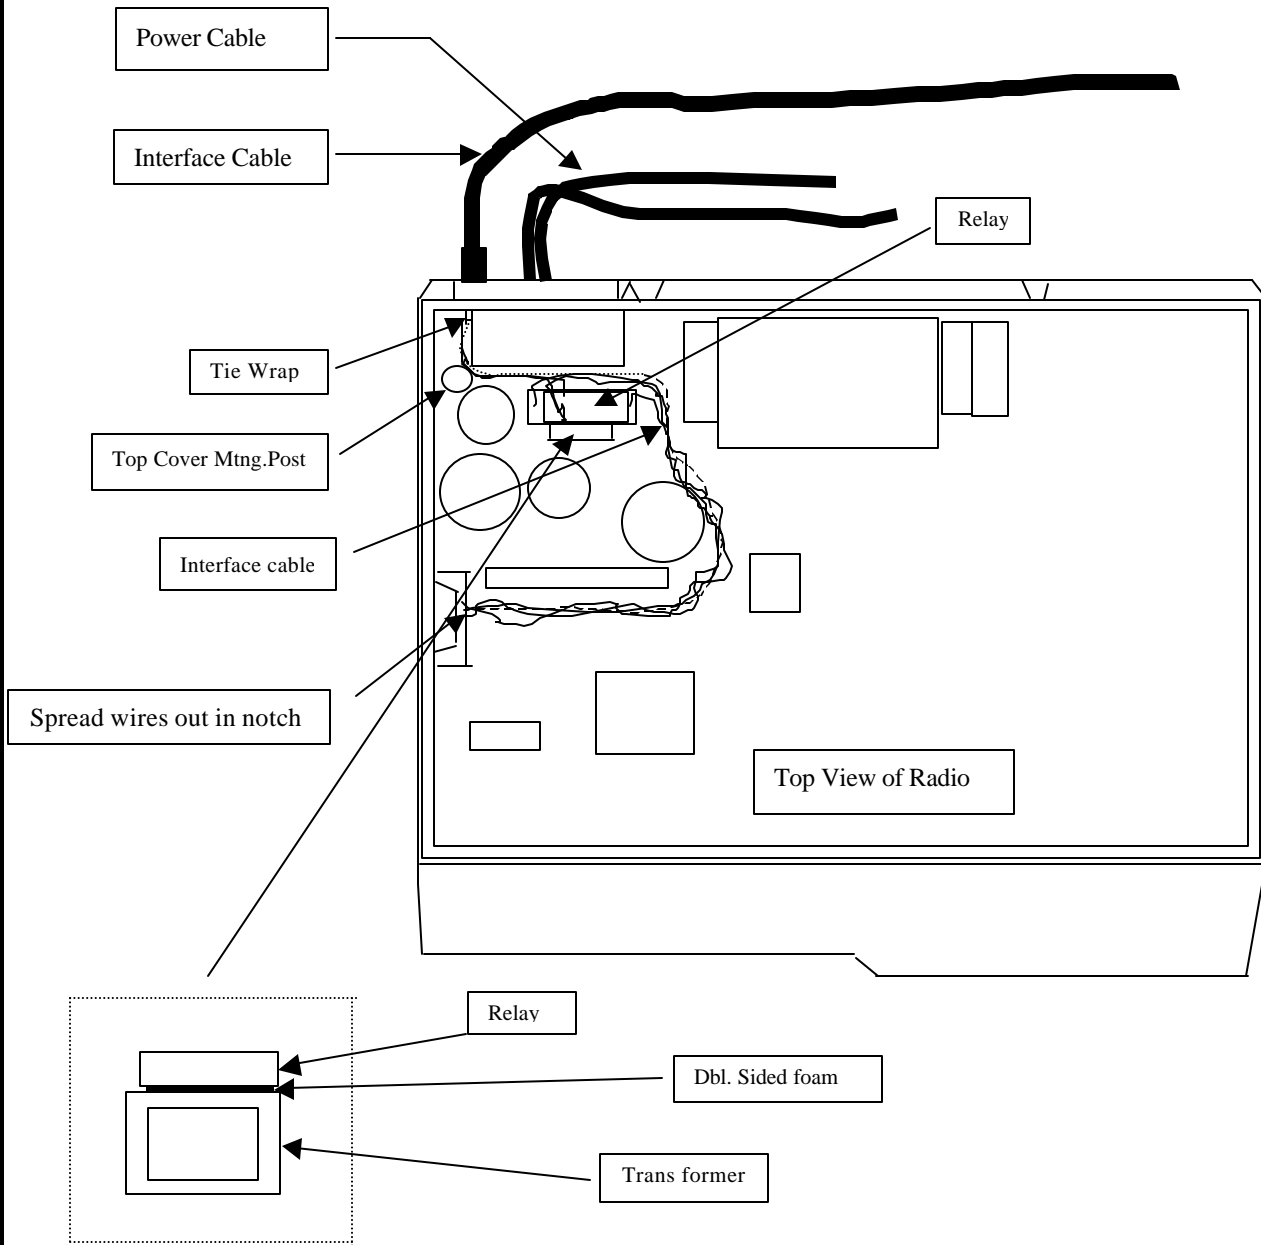

Fig. 1
5. Install a 1N914 diode across the coil terminals of the relay and mount the relay atop the transformer as shown in Fig. 1 on page 2.